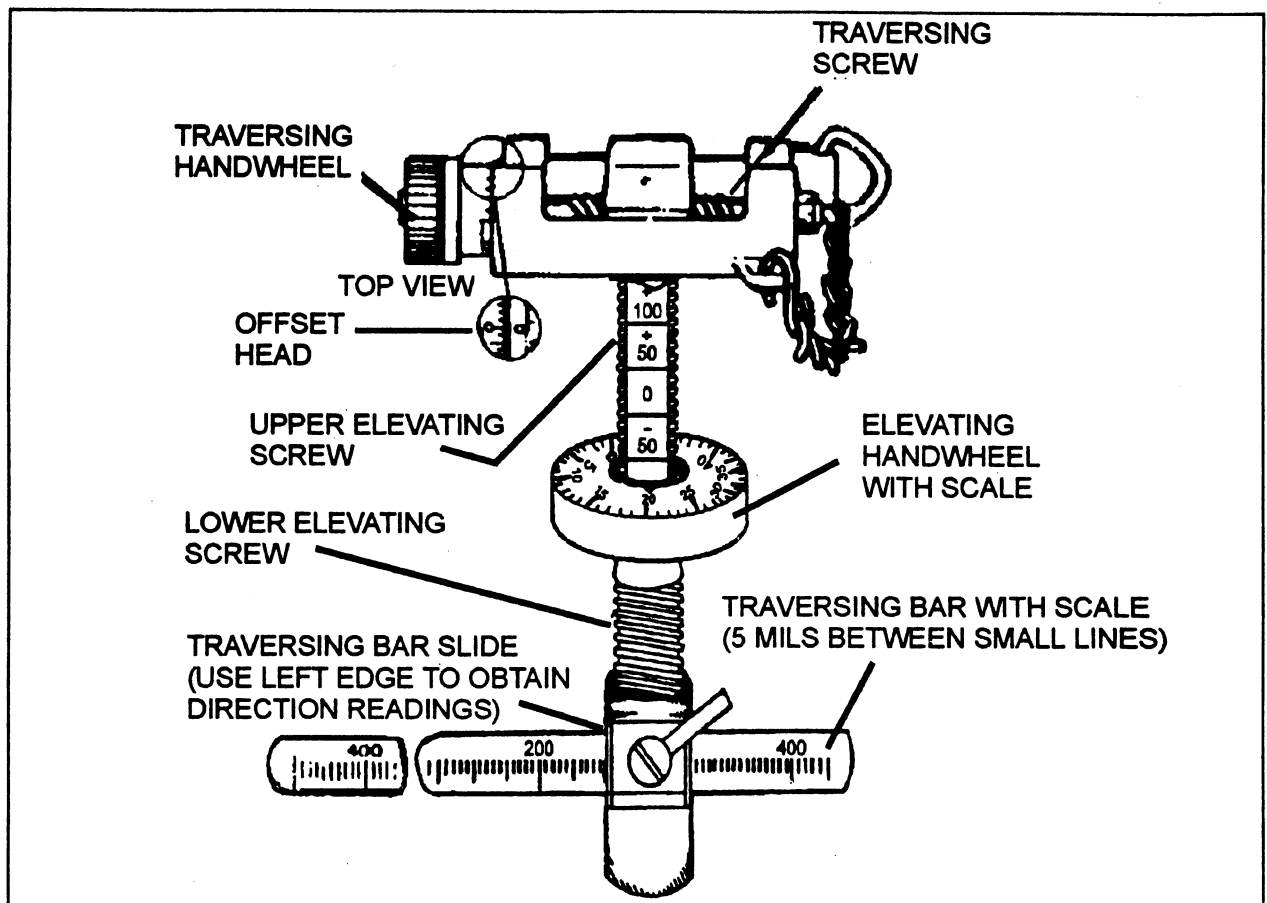

Fig 4-16. Traversing and elevation mechanism (T&E).
b. How to read and record gun data from T&E mechanism. You must actually read three scales. The direction readings come from the traversing bar scale. The elevation readings are obtained by reading the engraved scale on the upper elevating screw and the elevating handwheel are obtained by reading the engraved scale on the upper elevating screw and the elevating handwheel scale (see fig 4-16).
- (1) Ensure the offset head is centered on the traversing screw. Ensure the index line is aligned with the zero on the traversing handwheel scale. In accordance with your range estimate, ensure you have set the correct elevation on the rear sight.
- (2) Aim at the target and get a good sight picture.
- (3) While maintaining the correct pressure and sight picture, lock the traversing slide in place.